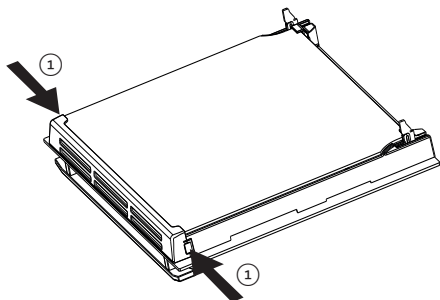

Fig. 4.11
- Touch the glass retainer tabs in on both sides of the door and remove the glass retainer (figs. 4.11, 4.12).